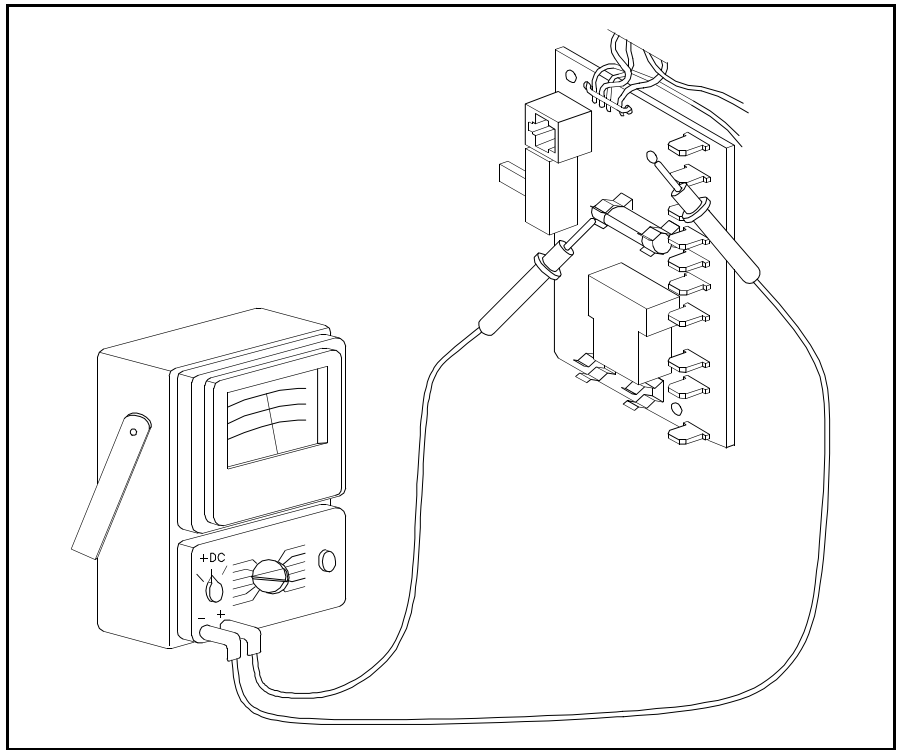

Figure 5.54 3 Amp Fuse Check
6. Check for 12 volts DC as shown in Figure 5.54. If you do not have 12 volts replace the 3 amp fuse.